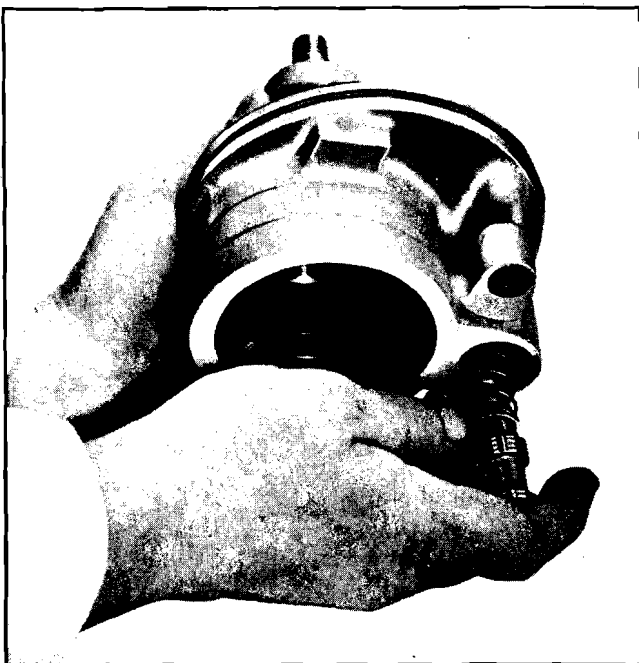
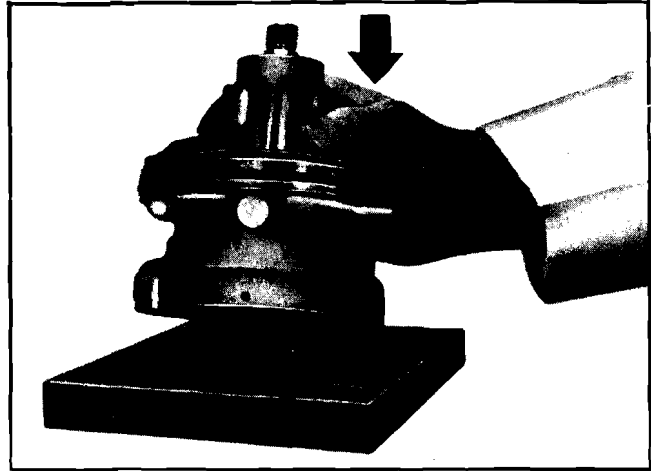

Fig. 9-86 Removing Flow Control Valve
Fig. 9-87 Removing Pressure Plate
8. With pump housing turned over, remove flow control valve and spring (Fig. 9-86) and tap housing on wood block until pressure plate falls free (Fig. 9-87).